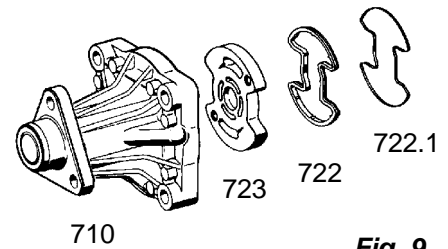

Fig. 9
4.1 Lift pressure plate (723) from housing (710) (Fig. 9).